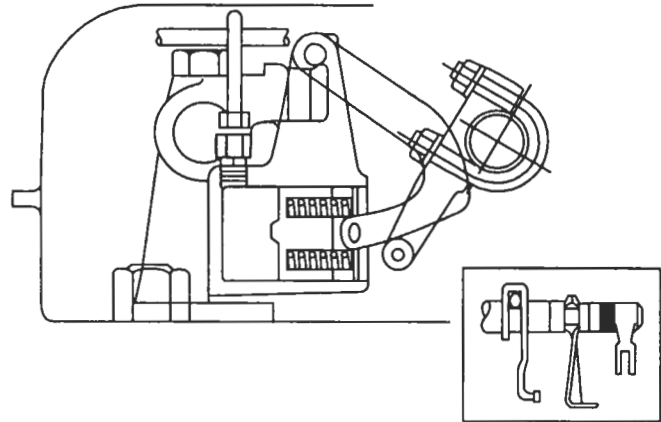

Figure 11. Fuel Modulator Assembly – Early Turbocharged Industrial Engines
1. Relocate the fuel modulator lever and roller assembly to its original position opposite the cam so the cam is centrally located on the roller (Figure 11.) Tighten the U-bolt nuts until the lever and roller assembly is snug on the control tube. This will not only permit adjustment of the lever, but will retain the adjustment until the roller and lever assembly can be securely tightened.